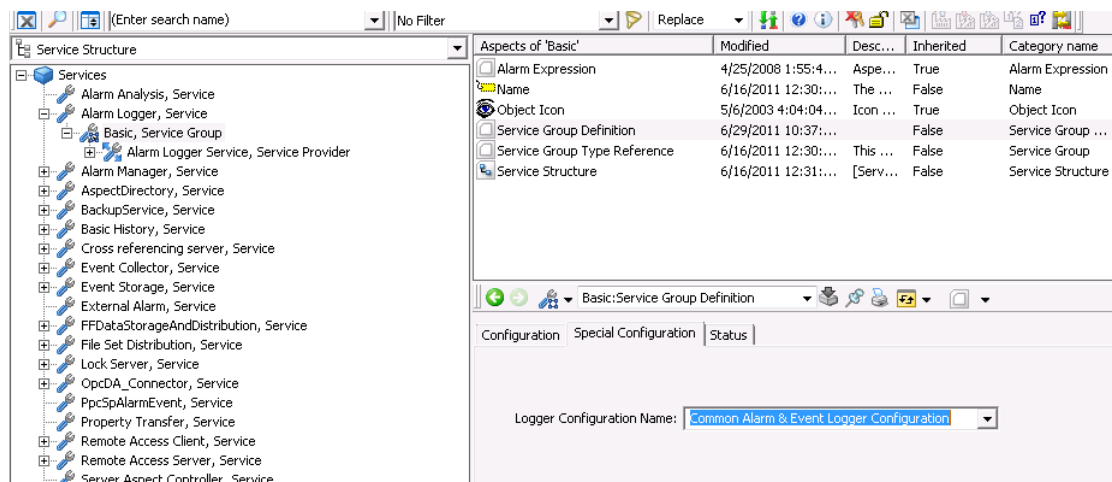

Figure 62. Service Group Definition Aspect - Special Configuration Tab
- 3. Select Basic, Service Group and open the Service Group Definition aspect and its configuration view, refer to Figure 62.